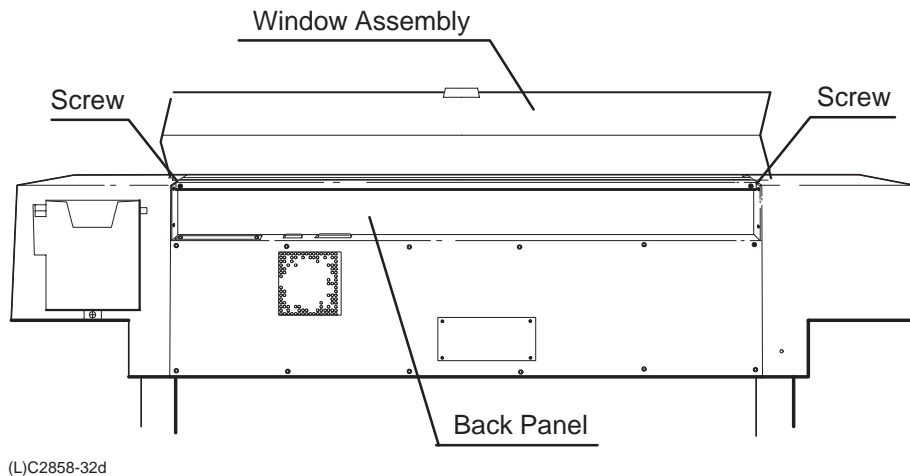

Figure 6-9.
2. Using a TORX T-15 screwdriver, remove the two screws that connect the window assembly to the back panel. See Figure 6-9.